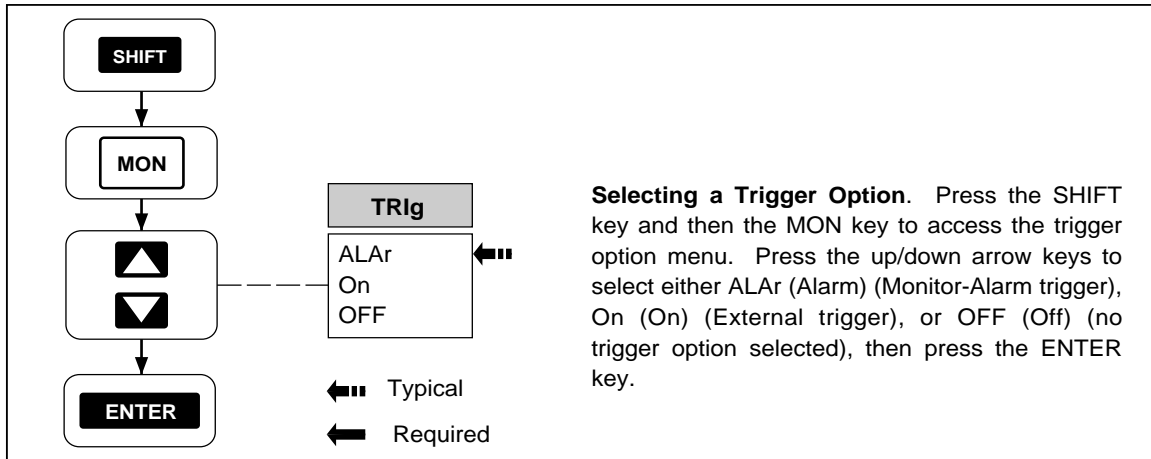

Figure 2-19. Scan Triggering Options
Alarm conditions are indicated for each scanned channel when using the autoprint function, and the ALM (Alarm) and DIO (Digital I/O) conditions are summarized with a decimal number. (See Tables 2-4 and 2-5.) An alarm condition can be used to turn autoprinting on and off by selecting "Print" (printer) or "both" (printer and memory card) as a data destination, and the data mode as ALAr (Alarm) (see Figure 5-3). When scanning using the front panel **SCAN** key, the printer will print measurement results when any scanned channel is in alarm. If scanning using the alarm trigger (see Figure 2-19), the printer will print measurement results only when the monitored channel is in alarm.
An alarm condition, coupled with the Monitor Mode, can be used to start and stop measurement scans (see Figure 2-19). When an alarm occurs, scanning begins, and when the alarm clears, scanning stops.
Perform the procedure in Figure 2-17 to start and stop the Monitor Mode of operation. The Monitor Mode can be started when the instrument is in the inactive mode or in the Scan Mode. The Monitor Mode commands the instrument to display the present measurement for any selected channel (except channels set to OFF) and to display alarm information if the channel is in alarm. If the Monitor Mode is used without the Scan Mode, the instrument operates like a multimeter. If the Monitor Mode is used with the Scan Mode, the instrument also operates like a multimeter but measurements can be recorded into memory, printed out, and reviewed (maximum, minimum, last values). The Monitor-Alarm triggering option uses the Monitor Mode to start or stop scans when a selected channel goes into or out of alarm (see Figure 2-19). If the instrument is in the Monitor Mode and scanning using the memory card, any illegal memory card operations are noted only with a double "beep." When you hear a double beep, exit the Monitor Mode and investigate the memory card error (see Figure 2-16).
- Scan Triggering Options (Figure 2-19)
Perform the procedure in Figure 2-19 to select a triggering option, which can be applied when the instrument is in the inactive mode (not scanning or monitoring). Normally, a scan is started by pressing the **SCAN** key, but two options can be selected to start a scan from either an external trigger input or from a monitor-alarm condition. The **SCAN** key overrides a triggering option.